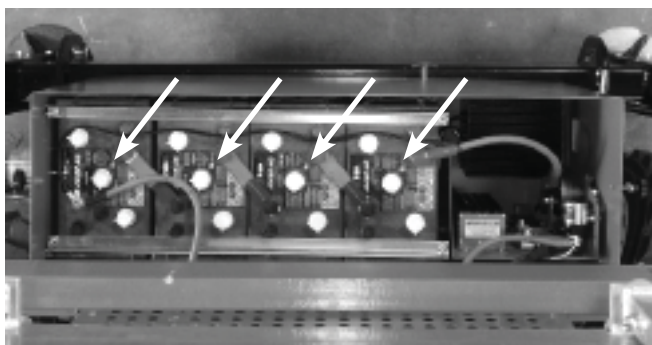

Figure 11.5 - DC Motor Batteries
There are two (2) master battery isolator switches mounted at the end of the control cabinet (see figure 11.5).
Unscrew the knurled knobs at each end of the cabinet to remove the lid to gain access to the batteries (see figure 11.5).